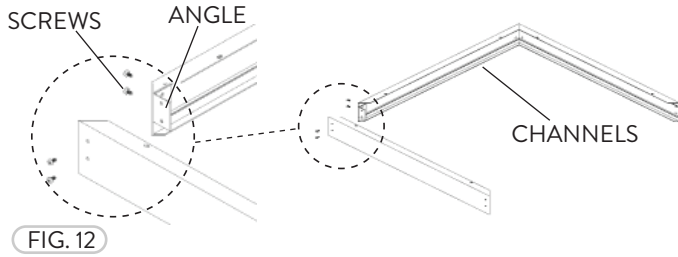

FIG. 12
- 1 Use Screws to fasten the Angles to the corners of the Channel frame. Start off by assembling three of the Channels together (Fig. 12).